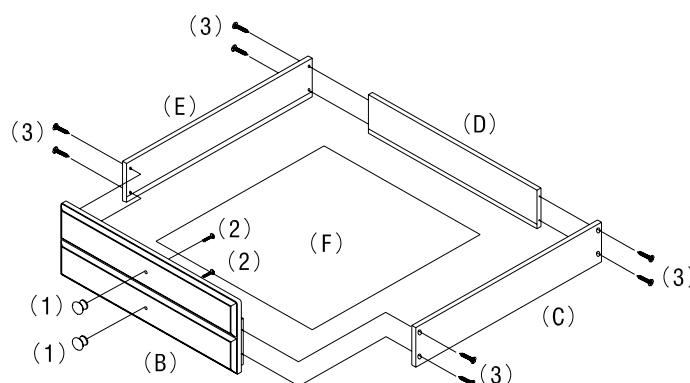

FIGURE 1
3. INSERT SMALL MACHINE SCREWS (2) THROUGH PREDRILLED HOLES ON BACK OF DRAWER FRONT PANEL (B) AND TIGHTEN INTO METAL KNOBS (1). INSERT LARGE WOOD SCREWS (3) THROUGH PREDRILLED HOLES ON OUTSIDE OF DRAWER RIGHT SIDE PANEL (C) AND TIGHTEN INTO CORRESPONDING HOLES ON ENDS OF DRAWER FRONT AND BACK PANELS (B, D). SLIDE DRAWER BOTTOM PANEL (F) INTO GROOVES ON INSIDE OF DRAWER FRONT AND BACK PANELS (B, D) AND ALIGN WITH THE GROOVE ON DRAWER RIGHT SIDE PANEL (C). PERFORM THE SAME WAY TO ASSEMBLE DRAWER LEFT SIDE PANEL (E). AND ASSEMBLE ANOTHER DRAWER IN SAME MANNER. (AS SHOWN IN FIGURE 1)